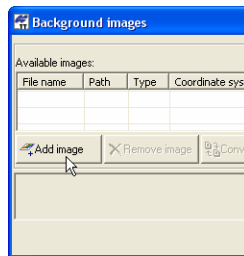

Figure 2-51. Select the Add Image Button
2. Click the **Add Image** button in the *Background images* dialog box (Figure 2-51).